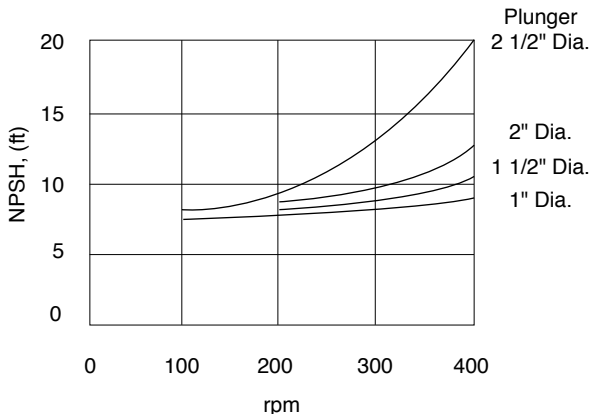

FIGURE 76. NPSHR for a Triplex Pump
- Figure 76 illustrates the NPSHR for a triplex pump as a function of rotating speed and plunger diameter.